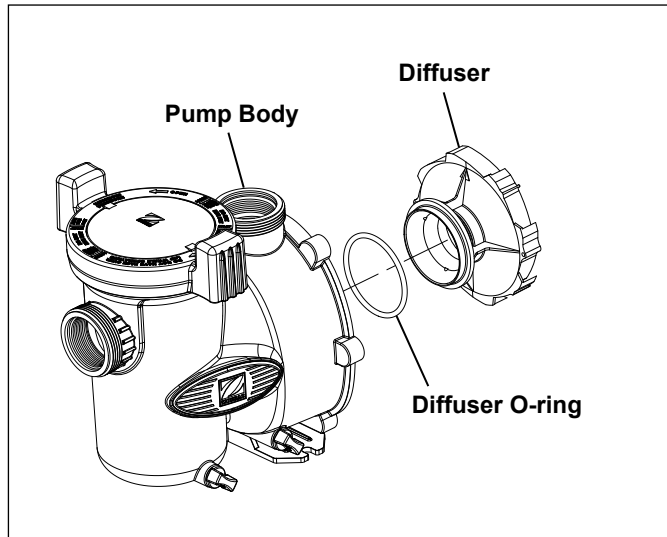

Figure 11. Pump Body and Diffuser Exploded View
5. Replace the two (2) small Phillips-head screws. Tighten the screws to draw the diffuser against the motor backplate. Install the impeller sleeve on the impeller.
6. To help prevent an airleak into the system, make sure the diffuser o-ring, o-ring groove, and o-ring seal area are clean and free of debris. If you removed the diffuser o-ring, make sure you install it into the groove you removed it from. (See Figure 11). If grease is used to retain the o-ring, it **must** be silicone based. **Do not use petroleum-based grease.** It will destroy the o-ring.
7. Slide the diffuser into the mating hole in the pump body. While supporting the motor, start two (2) screws on opposite sides. (This will hold the motor in position while you start the other four (4) screws.)
8. Tighten the screws lightly in a crossing “X” pattern using a 9/16" wrench. Start with the inner (middle) two (2), then the outer (top and bottom) four (4) to draw the backplate to the body in an even manner. Once all the screws are snug, torque in the same order to 27 Nm.